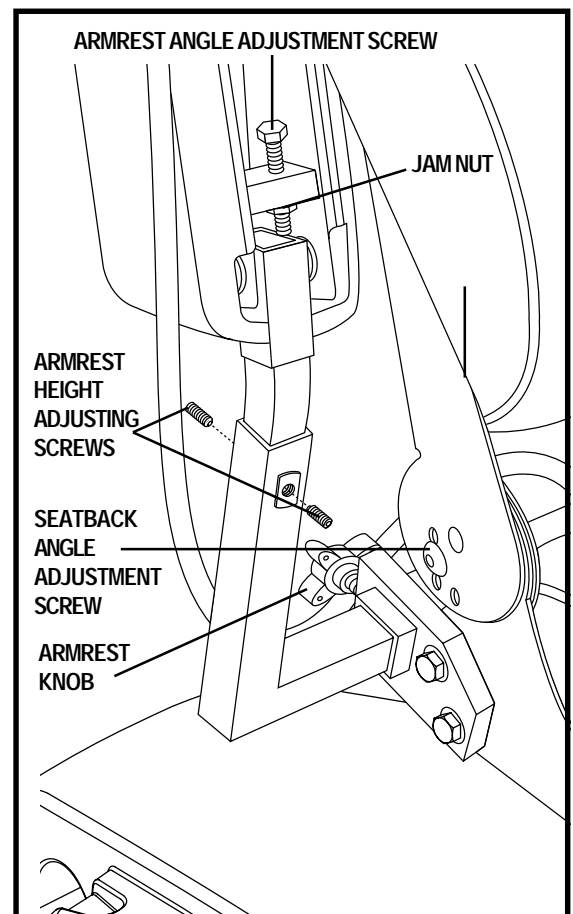

Figure 15. Seatback and Armrest Adjustments
1. Remove the seatback angle adjustment screws on both seat hinges. See figure 15.
1. Locate the two armrest knobs on each side of the armrest receiver bracket. See figure 15.
2. Raise or lower the armrest to the desired height. See figure 15.
2. Loosen the jam nuts. See figure 15.
4. Turn the adjustment screw clockwise to raise the front of the armrest, or turn the adjustment screw counterclockwise to lower the front of the armrest. See figure 15.